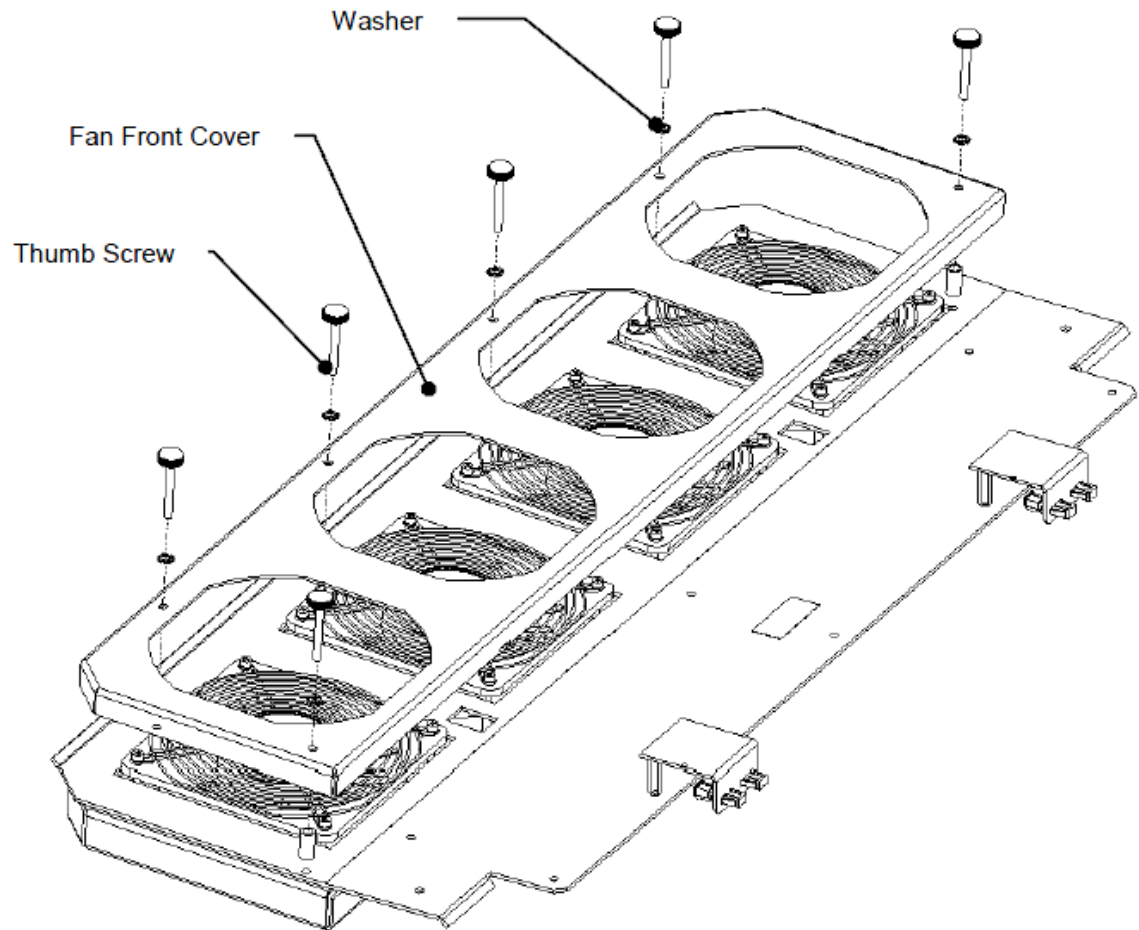

Figure F-4: Removing the Fan Cover
4. Remove the Fan Cover from the assembly (Figure F-4).